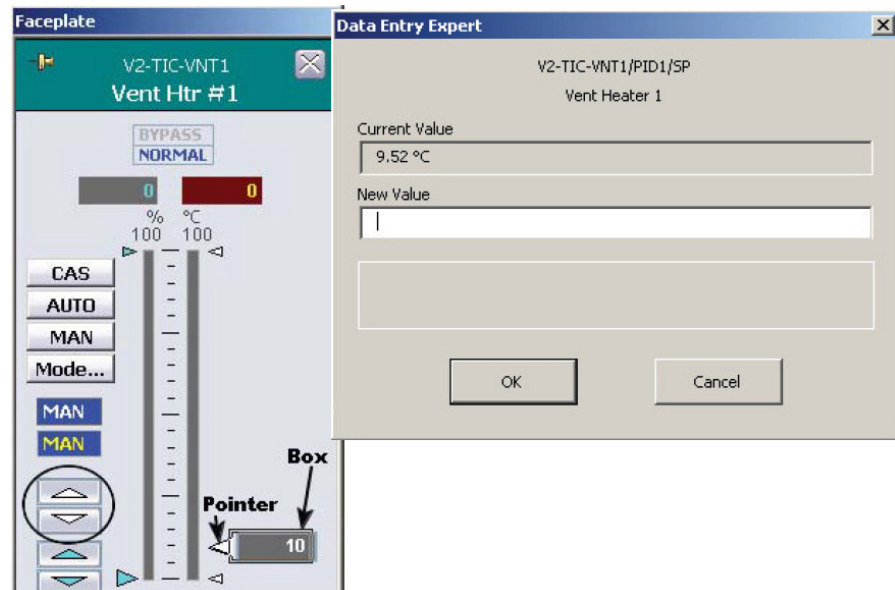

Figure 2.43. Entering temperature value to lower point of desired range.
4. If you are running a two-point calibration, first set the temperature to the lower point of the desired range (Figure 2.43). This can be done from the faceplate either by sliding the right-side pointer to the desired temperature, or clicking the box and typing in the value. The white up/down arrows also change the value.